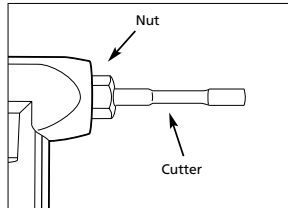

Figure 4
4. Loosen the nut that secures the cutter inside the tool. (Figure 4). This will allow cutter and nut to be removed from the air nibbler.